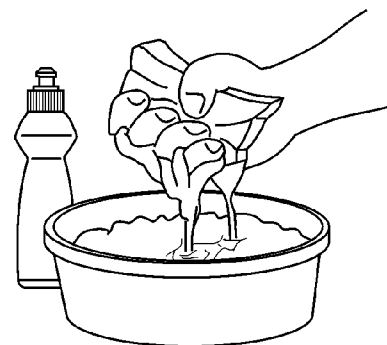

Figure 19
3. Wash air filter in laundry detergent or kerosene (Fig. 19).